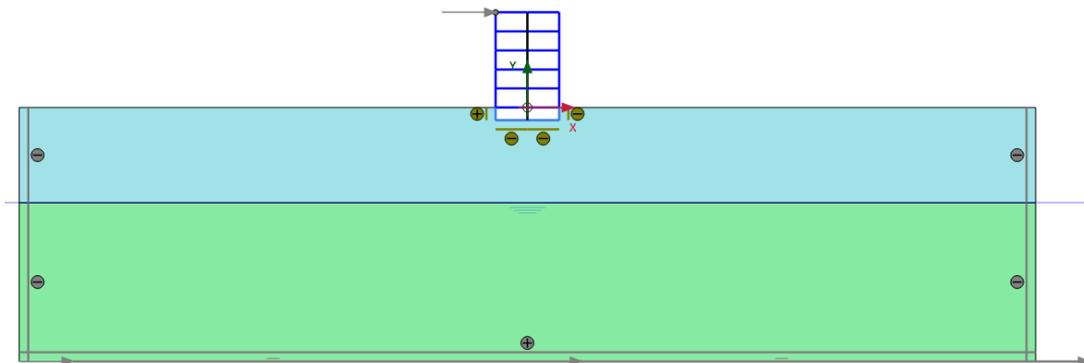

Figure 220: Construction of the building
3. The model for phase 1 is shown in Figure 220 (on page 250).